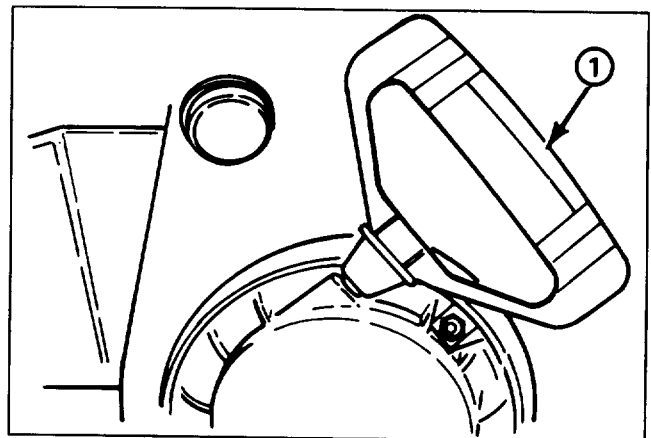

Figure 13
Recoil Starter (Fig. 13)—Recoil starter is on back side of engine. Pull recoil starter to start engine.
6. Grasp recoil starter handle (Fig. 13) and pull it out slowly until positive engagement results; then pull vigorously to start the engine. Keep firm grip on starter handle and return the rope slowly.